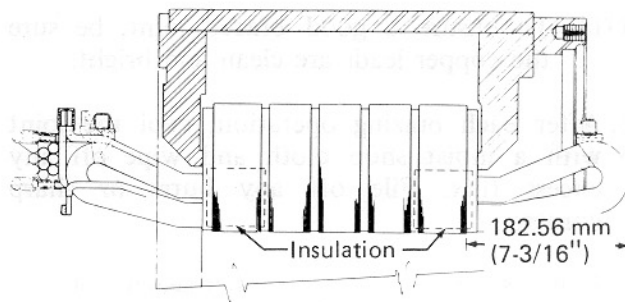

Fig. 3 - "U" Shaped Insulation
9. Install U-shaped insulation pieces in recesses at each end of slot, Fig. 3.
12. Position each coil so the end of the coil is 182.56 mm (7-3/16") from the face of the first lamination, Fig. 3. A minimum air gap of 2.4 mm (3/32") should be maintained between the upper and lower diamond sections of coils at both ends.